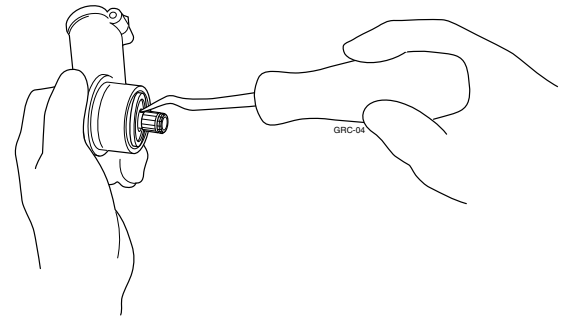

Figure 11.4 Use a pick or small screwdriver to pry out the output seal from the gearcase.
- To remove the output seal from these models, use a pick or small screwdriver to pry the seal from the gearcase (Figure 11.4).